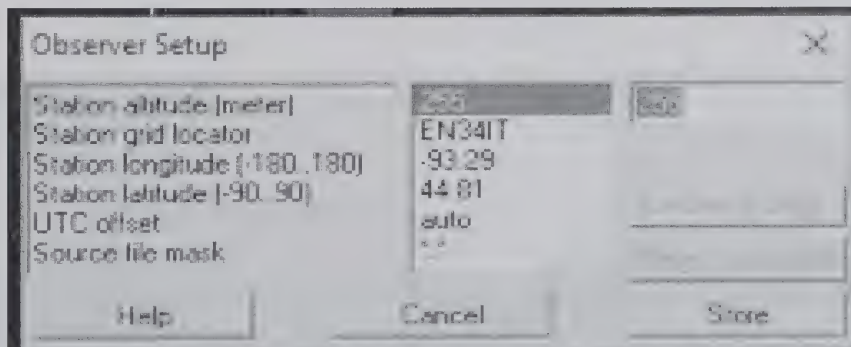

Figure 5.
E) Set your location: From the menu bar, click on "Setup>>Observer." As shown in Figure 5, click on each item in the center column and set the value in the field on the right. After entering your Station Grid Locator, click the [Locator > Degr] button to insert the latitude and longitude of the center of the grid square into the next two lines. Leave "UTC offset" and "Source file mask" unchanged, then click the [Store] button.